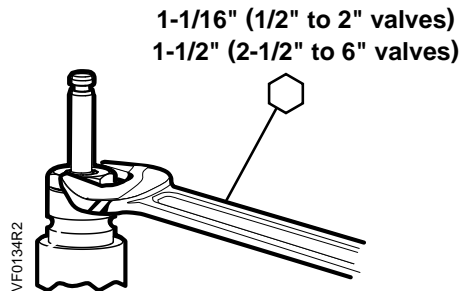

Figure 2. Removing and Replacing the Packing Cartridge.
3. Tighten with an open-end wrench using 35 to 40 lb-ft (47 to 54 Nm) torque on the 1/2 to 2-inch valves and 110 to 140 lb-ft (150 to 190 Nm) torque on the flanged valves. See Figure 2.